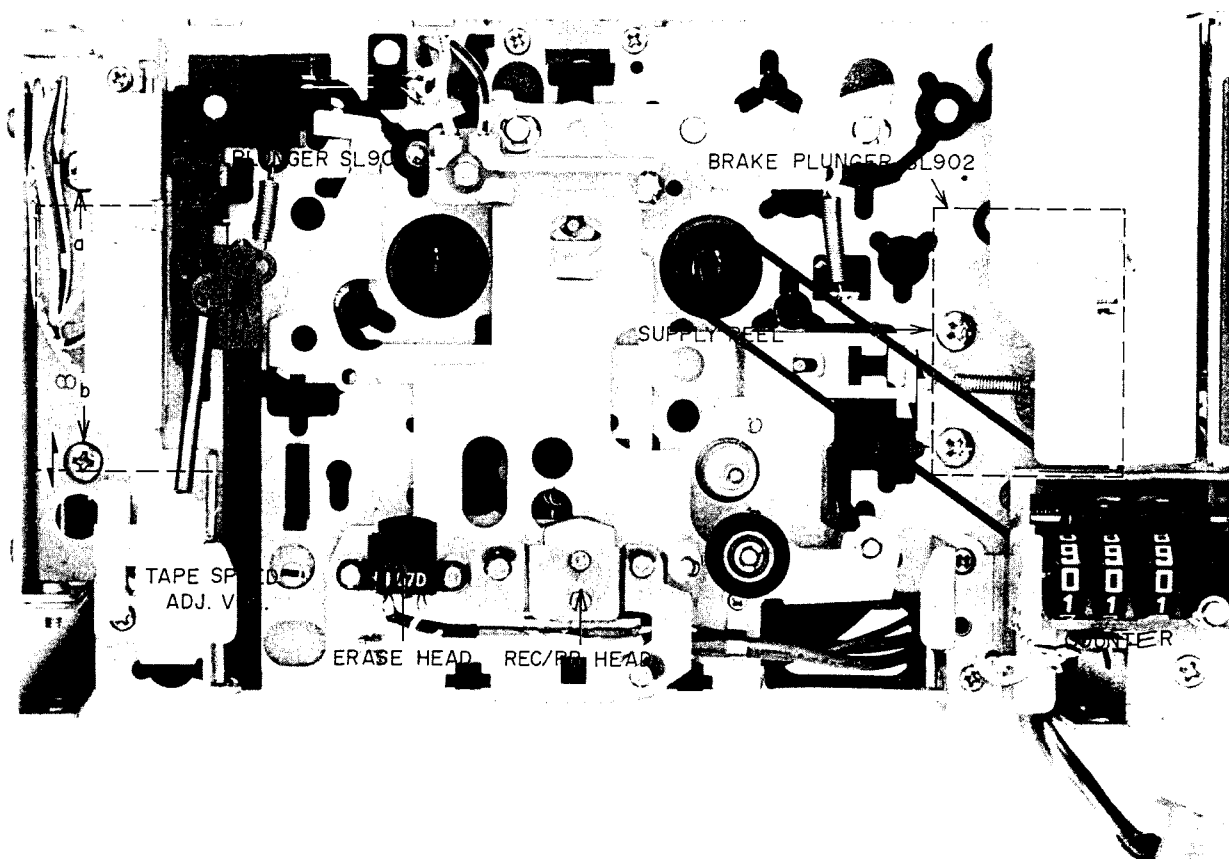

Fig. 6
2. PLUNGER POSITIONING (Refer to Figs. 6, 7)
(Refer to Fig. 6)